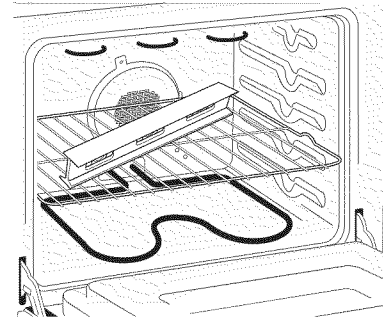
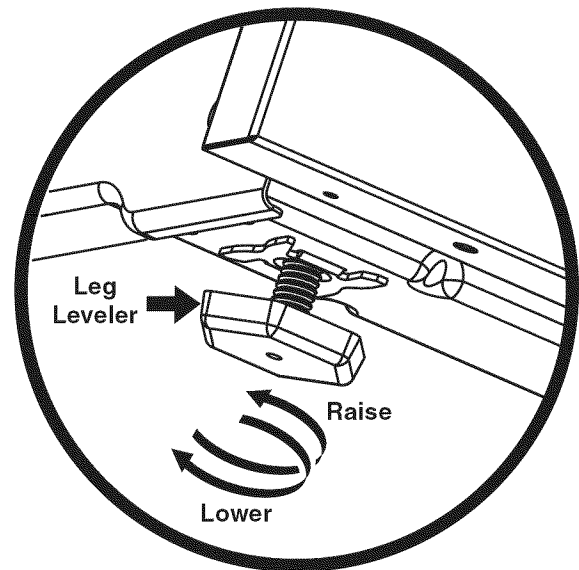

Figure 2
Figure 3
- B. Place a level on the rack (see Figure 2). Take 2 readings with the level placed diagonally in one direction and then the other. Level the range, if necessary, by adjusting the 4 leg levelers with a wrench (see Figure 3).